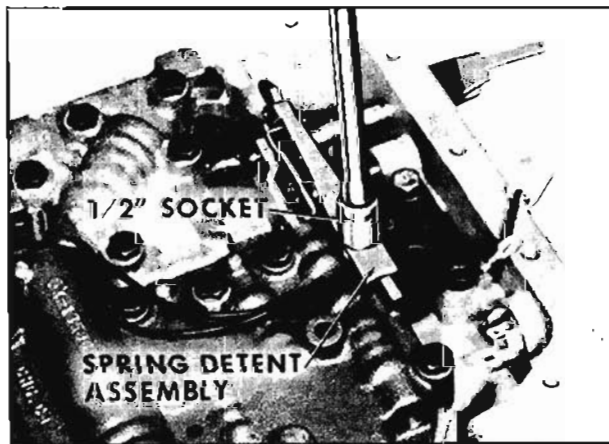

Fig. 6-465 Installing Spring Detent Assembly
9. Before installing spring detent assembly, note routing of solenoid wires. Install spring detent assembly. Torque bolt 8 to 12 ft. lbs. (Fig. 6-465)